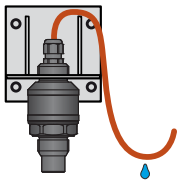

Fig. 13: Protection against penetration of moisture
- It is advisable to keep cable under the **cable gland** (sagging down) as shown in Fig. 13 to prevent penetration of moisture. Rain and condensing water can be therefore drained away freely.